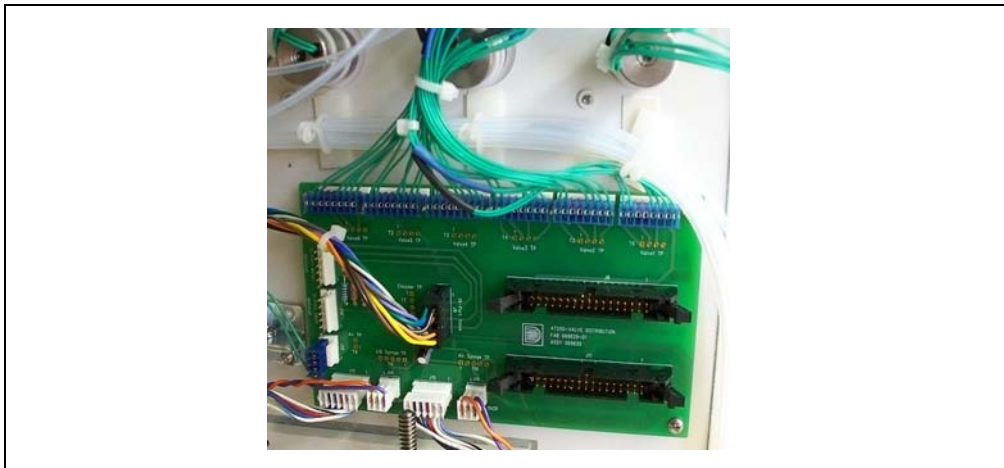

Figure 5-19. Switching Valve Connectors on Valve Distribution PC Board
6. Locate the connector for the defective valve on the Valve Distribution PC board (see Figure 5-19). Unplug the connector.